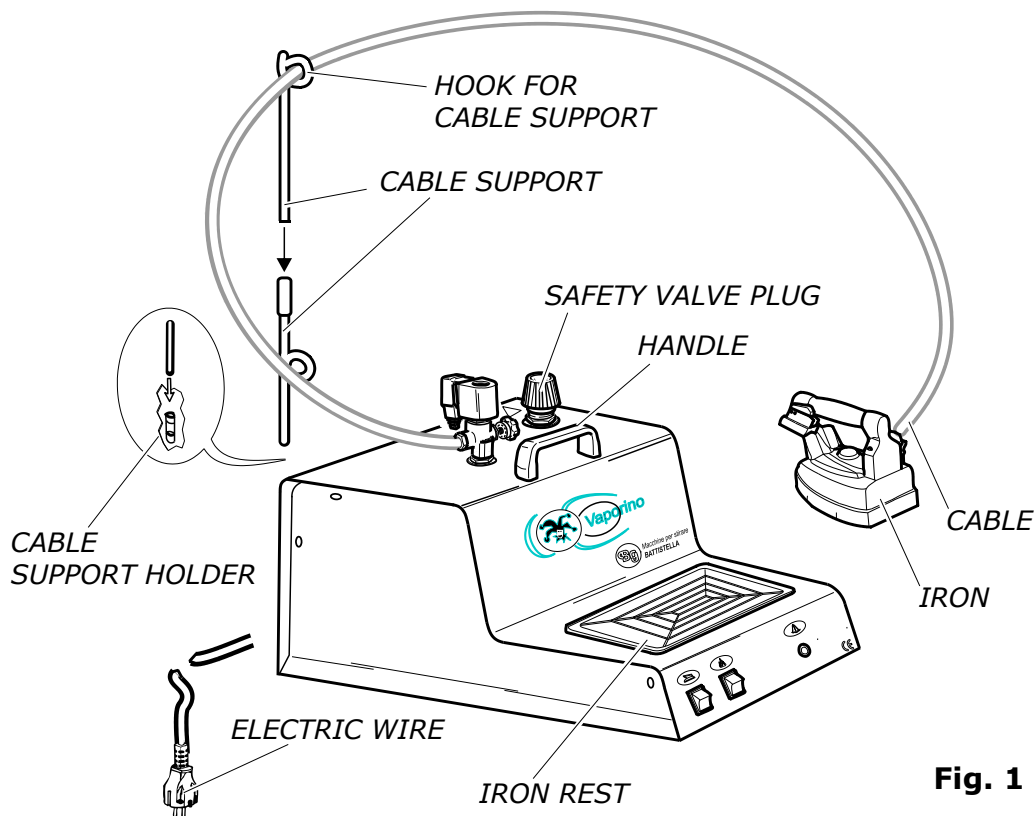
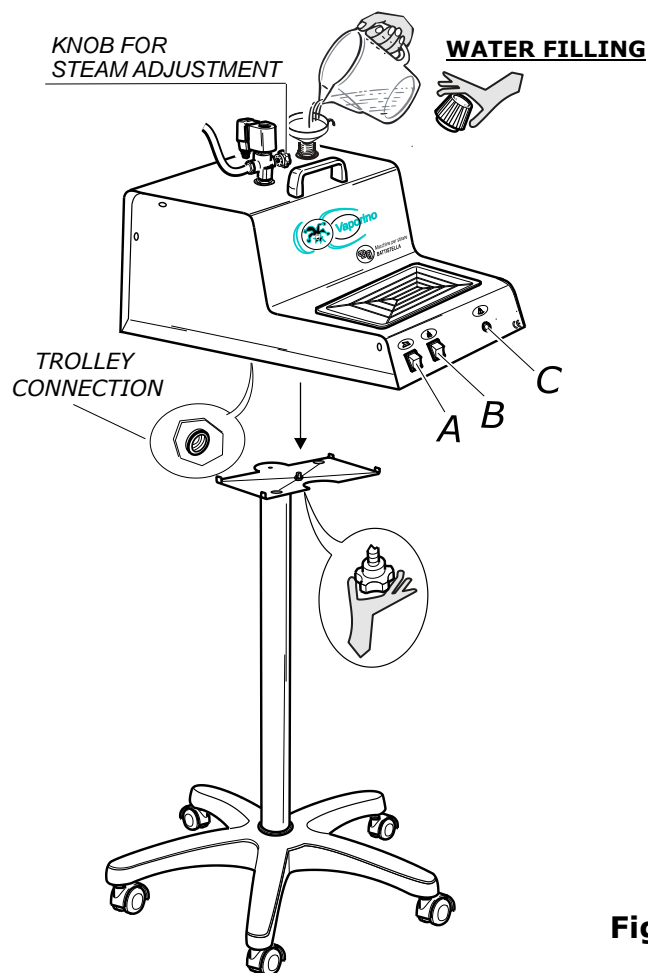
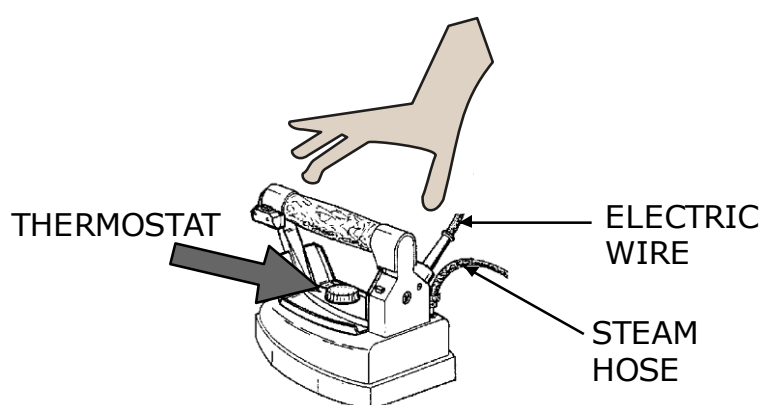
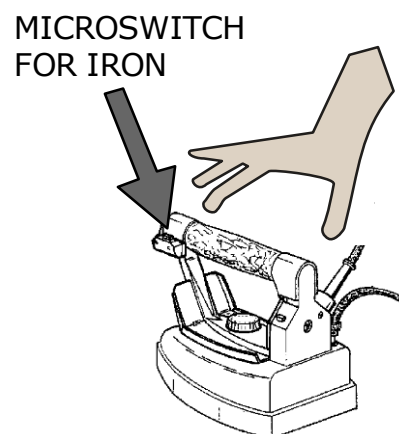

Fig. 1
Fig. 2
Fig. 3
Fig. 4
Before installing VAPORINO MAXI, it is necessary to set up a protected electrical socket suitable to VAPORINO MAXI power (it is better to use an earth protector magneto-thermic switch 16 A Id 30 mA). For the transport and the movement of VAPORINO MAXI, take the generator only by the specific handle. Never pull the electric wires (fig. 1).
2. Remove VAPORINO MAXI from the box, assemble the cable support and insert it deep into the special support holder placed on the back of VAPORINO MAXI (fig. 1).
4. Place the iron on the rubber iron rest supplied with the machine (fig. 1).
5. For VAPORINO MAXI supplied with trolley: screw the trolley knob on the proper connection under the base of the VAPORINO MAXI (fig. 2).
1. Unscrew the safety valve plug of VAPORINO MAXI (fig. 1), fill the boiler with water to the desired level (fig. 2) paying attention not to overfill it. It is advisable to use a funnel. Take the plug by the plastic part and screw it again: do not tighten too much or its gasket might get spoiled (see section 7).
3. Switch on the boiler (fig. 2 B) and the iron switch (fig. 2 A) and adjust the thermostat (fig. 3) on "cotton".
4. Wait for the boiler lamp to switch off (fig. 2 C). At this point seize the iron by cork handle and press the micro-switch of the iron (fig. 4) 4 or 5 times, so that steam comes out. It is important to make sure that the steam is saturated (by pressing the micro-switch with the iron pointed towards the floor). It is also possible to adjust steam flux by turning the regulation knob (fig. 2). Now everything is ready for ironing. During ironing operation, the boiler lamp switches on and off signalling that the machine is working properly (fig. 2 C).
11. **Never replace the safety valve plug (fig. 1) with other types of plug. N.B. the safety valve plug is set at 4,5 bar and it has the function of a safety valve.**
1. Run the iron on garments, pressing the micro-switch of the iron at intervals (fig. 4), so that steam comes out.
3. During ironing operation, always put the iron on its rubber rest (fig. 1).
4. For dry ironing it is possible to adjust the thermostat (fig. 3) on different positions according to the type of fabric (look at garment label). For steam ironing set the thermostat on "cotton" or "linen" " (**N.B.:** the thermostat of TULIPANO irons must be set between "wool" and "cotton").
5. When VAPORINO MAXI is used with a non-vacuum board, some circular water spots might form. In this case, reduce the steam flux by adjusting the knob for steam regulation (fig. 2). It is recommended to combine the machine with a vacuum and heated ironing board.
At this point disconnect the plug, rotate the valve plug (fig. 1) of 360° and wait for steam to go out completely. Unscrew the valve plug with care and wait 5/10 minutes.
Then fill the boiler up to the desired level (fig. 2) paying attention not to overfill it (see section 4 point 1). Screw the safety valve plug again, connect the plug and wait for the boiler lamp to switch off (fig. 2 C). Now the iron is ready again.
Unscrew the safety valve plug (fig. 1) and rotate the VAPORINO MAXI rightwards so that water and possible impurities come out.
3. steam tube and iron cable once they seem damaged (fig. 3);
4. the safety valve plug every 2500 hrs. or maximum every 3 years (fig. 1).
6. iron overheating or loss of water from iron (fig. 3);
7. washing or cleaning the iron using water (fig. 3);